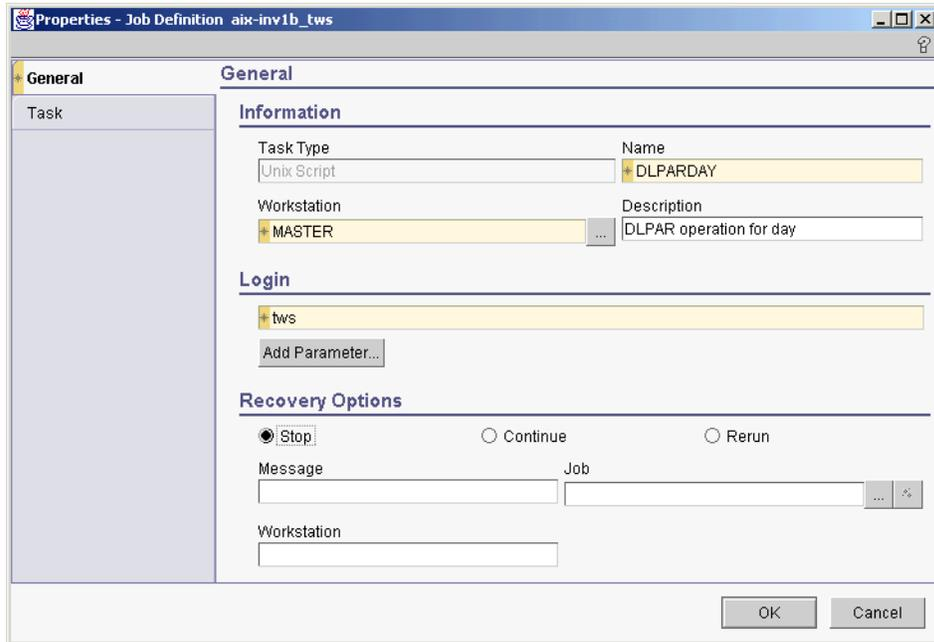

Figure D-2 Properties - Job Definition: General
3. Select the **Unix Script** job type. The Properties - Job Definition window is displayed as shown in Figure D-2 on page 473.